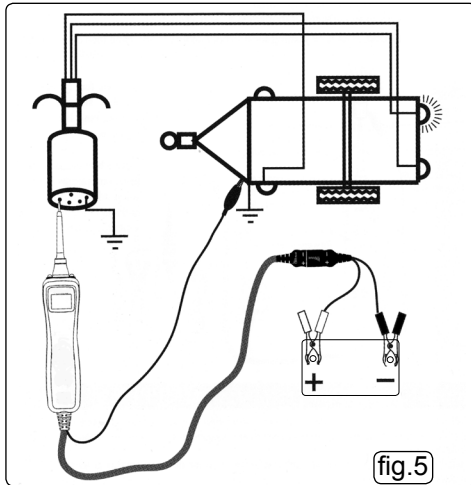

fig.5
3.8 Testing Trailer Lights and Connections. See fig.5.